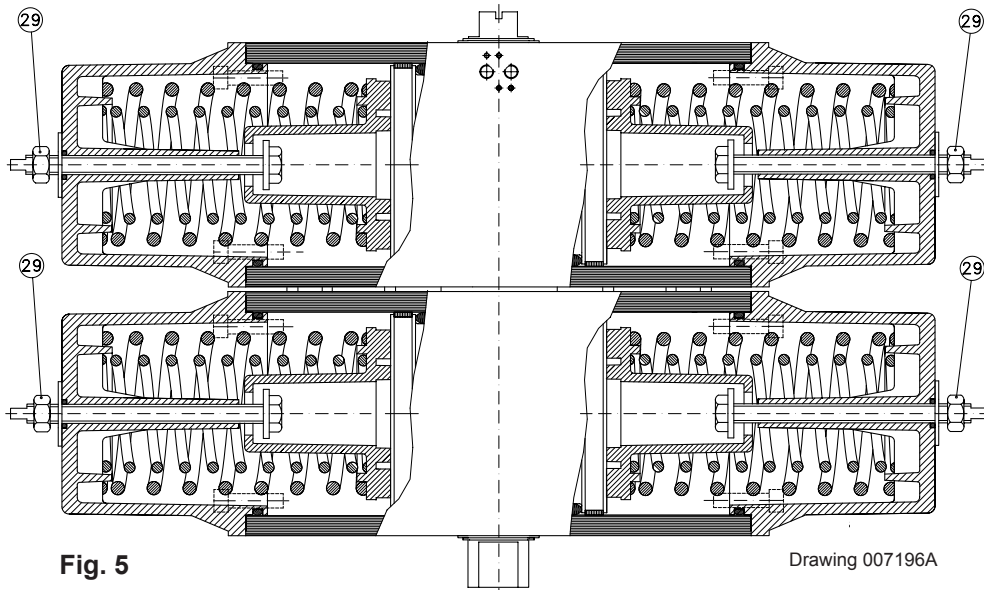

Fig. 5
1. Check that the springs can press the piston into starting position according to figure 5.
4. Loosen the lock nuts (29).
5. Turn tensioning bolts (26) clockwise until they can be turned with the minimum force.